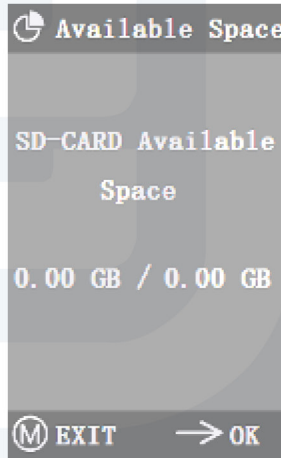

Figure 5-16
- If "0.00 Gb / 0.00 Gb" shows (see Figure 5-16), the micro SD card was not successfully mounted, please try to reinsert it